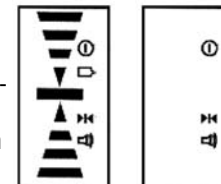

Figure 3 Figure 4
- 1) Press the power key to turn the unit on. The LCD display will illuminate all the indicator segments for 0.5 second (Fig.3). When the indicator segments are no longer illuminated, the detector is ready for use.